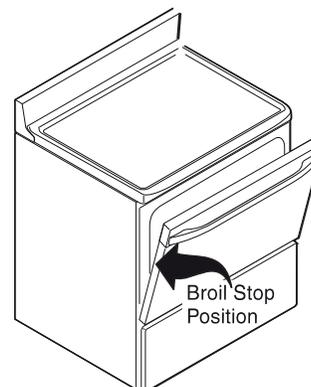

Figure 11: Open door broil position
- When baking using two oven racks, position cookware to allow at least 2 inches (5 cm) of space between cookware for proper air circulation and position pans as shown in Figure 11.
- If using broil pan and insert, place insert on broil pan. Place on oven rack, preheat on broil HI for 5 minutes before placing food on insert. Broil with the oven door open to the broil stop position (Figure 11).